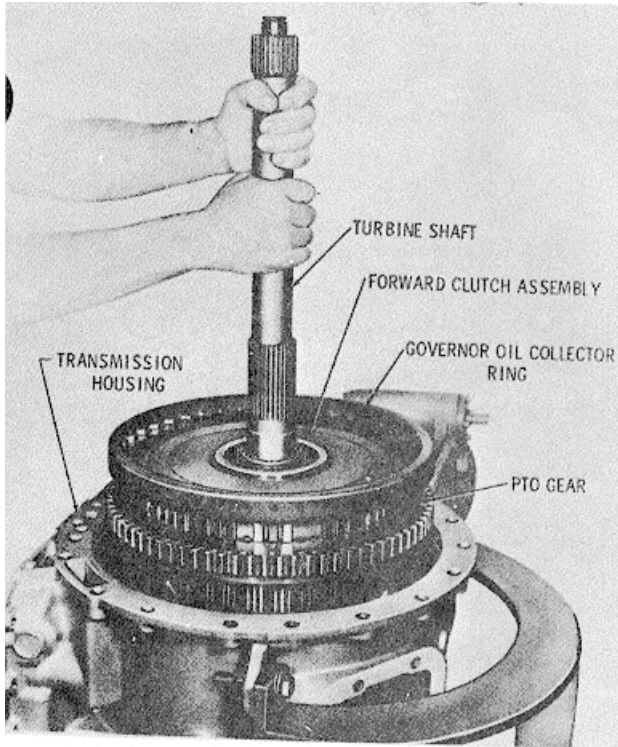
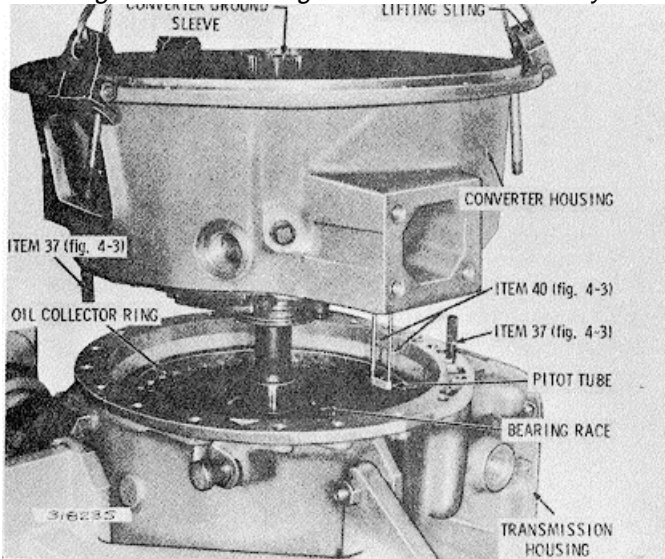

Fig. 7-35. Installing forward clutch assembly
Fig. 7-36. Installing converter housing assembly
(3) Hold air pressure in the clutch and remove the fixture. Continue holding air pressure, and install the forward clutch assembly (with race and bearing) (fig. 7-35).
(4) Release the air pressure when the forward clutch is fully seated (forward clutch will fall slightly when air is released if the clutch is not fully seated).
(5) Make sure the thrust bearing race on the front of the forward clutch assembly is installed (fig. 7-36). If not, apply oil-soluble grease to the race and install it.
(3) Attach a lifting sling to the converter housing (fig. 7-36). Raise the converter housing assembly above the transmission.
(4) Install two 1/2-13 x 2 3/8-inch guide screws 37 (fig. 4-3). One in the converter housing and one in the transmission housing (fig. 7-36).
(5) Install two #10-32 x 6-inch guide screws 40 (fig. 4-3) into the pitot tube. Exit port of pitot tube must face toward guide bolts (fig. 7-36). Install the pitot tube and guide bolts so that the guide bolts enter the screw holes in the converter housing, and entrance port of pitot tube faces outward (toward pitot collector ring) (fig. 7-36).
(6) Install the converter housing onto the transmission housing, using care to avoid damage to the pitot tube and the collector ring (fig. 7-36).